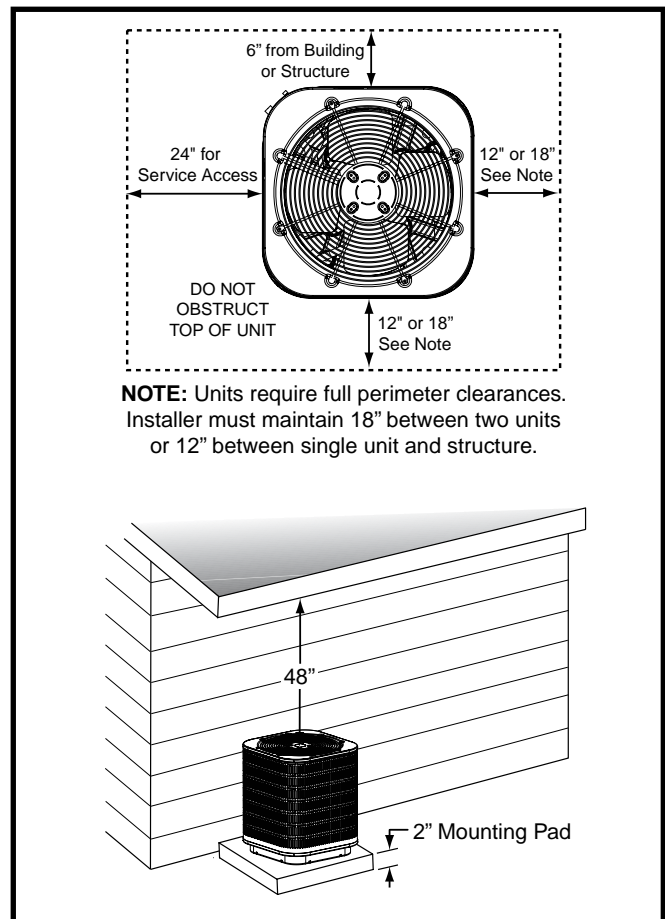

Figure 1. Clearance Requirements
- Sufficient clearance for unobstructed airflow through the outdoor coil must be maintained in order to achieve rated performance. For minimum clearances to obstructions, see Figure 1.
- Overhead obstructions (Figure 1), poorly ventilated areas, and areas subject to accumulation of debris should be avoided.
- Clearances must be in accordance with those shown in Figure 1.
- A suitable mounting pad must be provided and separate from the building foundation. The pad must be level and strong enough to support the weight of the unit. The slab height must be a minimum of 2" (5 cm) above grade and with adequate drainage. See Figure 1.